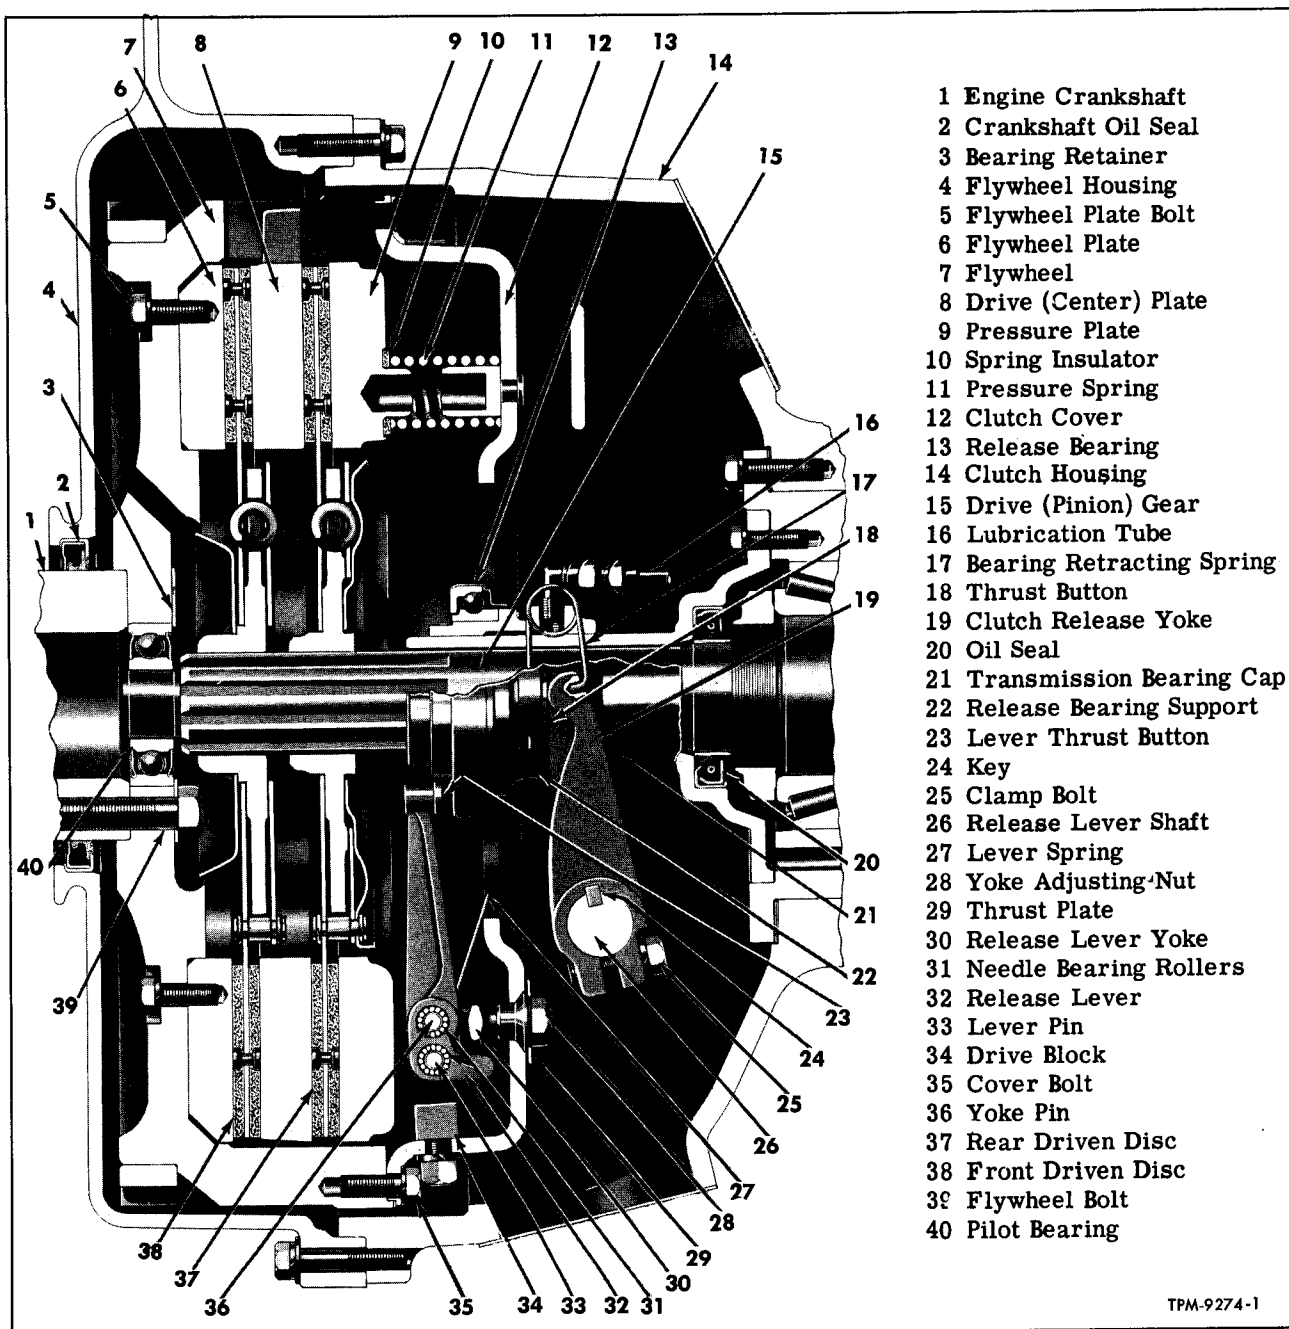
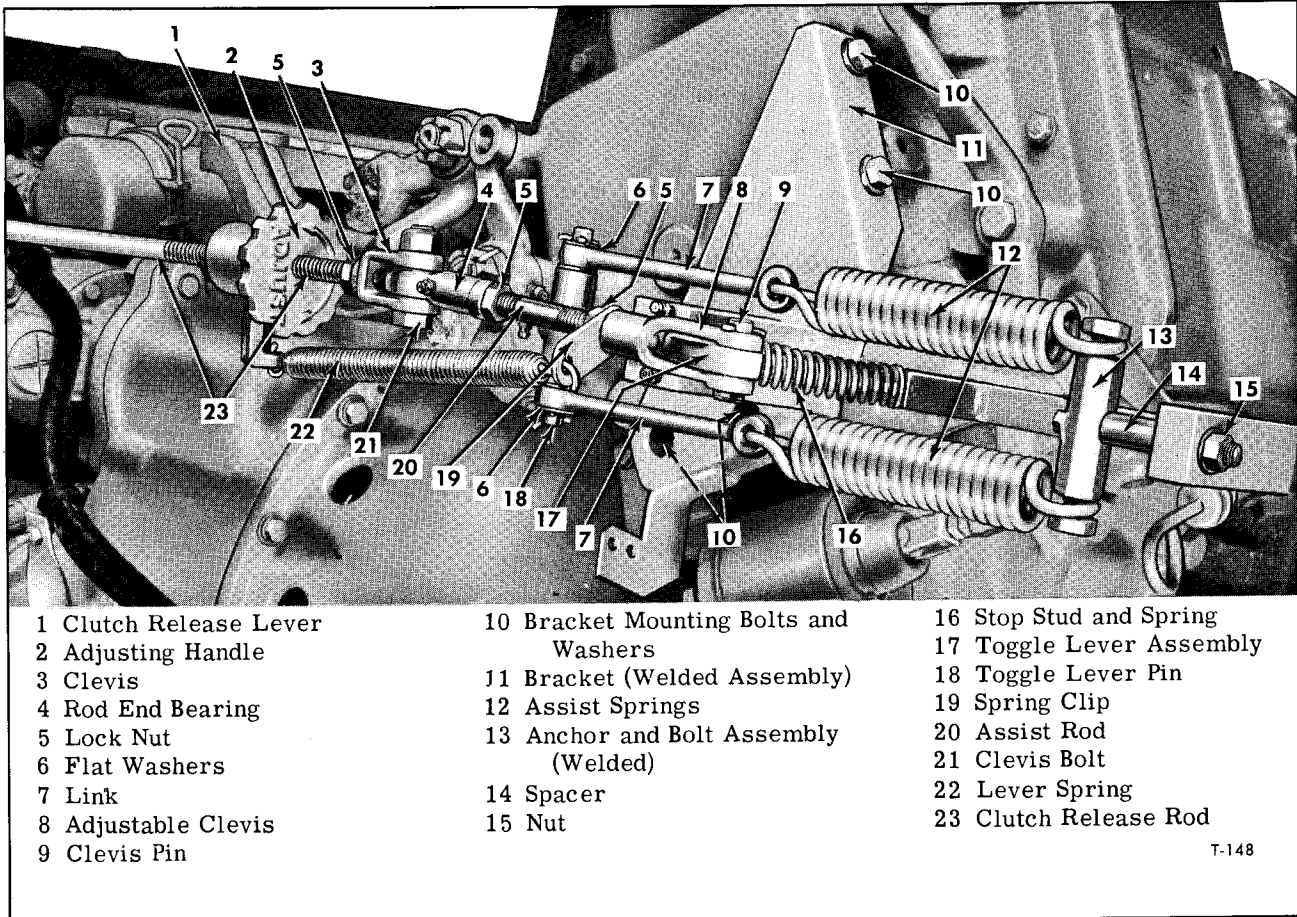
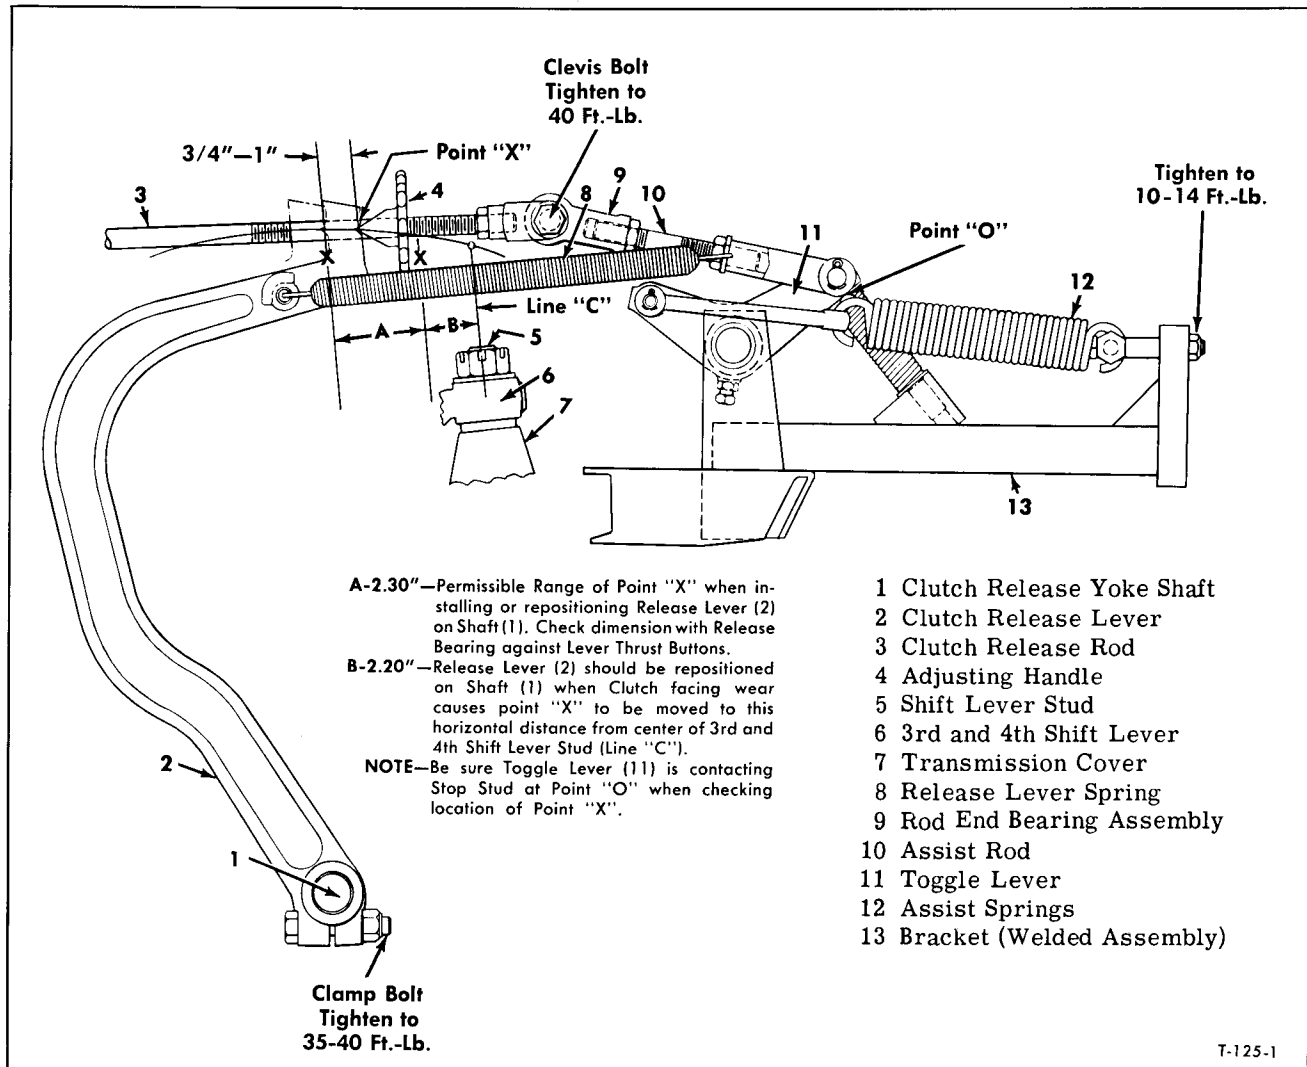
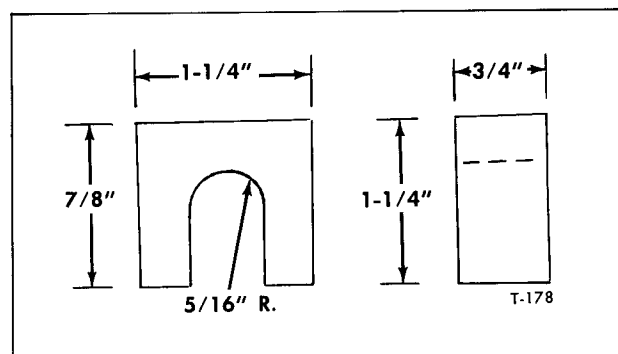

Figure 1—Cross Section of Clutch Installed
Figure 4—Clutch Release Assist Mechanism
Figure 6—Release Shaft Lever Position and Release Bearing Clearance Adjustment
Figure 7—Improved Tool (Gauge) For Measuring Release Lever Free Play
Figure 1 illustrates the clutch installation for current coaches. This differs from earlier production in that the clutch driven discs each have twelve damper springs at the clutch disc hubs, and the oil slingers differ somewhat in design. Slinger on front disc is welded to the disc hub.
Clutch cover and pressure plate assembly remains the same as in the past. A replaceable wear plate (6, fig. 1) is installed in flywheel.
Key numbers in text refer to figure 4.
The mechanism shown in figure 4 incorporates an over-center spring arrangement which serves to reduce the effort required to disengage the clutch.
NOTE: It may be necessary to remove clevis pin (9, fig. 4) to permit installation of clevis pin at bell crank.
3. After adjusting bell crank position as described in step 2 above, unhook lever spring and remove clevis pin (9, fig. 4). Check toggle lever (17, fig. 4) to make certain lever is in solid contact with stop stud. Hold clevis (8, fig. 4) at toggle lever and try inserting clevis pin. If pin is not a free fit through clevis and lever, loosen lock nut at spring clip and turn adjustable clevis as necessary to allow clevis pin to enter freely. Install clevis pin and cotter pin. Position the spring clip and tighten clevis lock nut, then install lever spring.
The adjusting handle (2, fig. 4) provides a simple means for adjusting release bearing clearance.
At regular intervals, check the free play of clutch release lever (1, fig. 4). "Free play" means
the distance the top of clutch release lever moves before the release bearing contacts clutch release lever buttons (23, fig. 1). Free play will normally become less as wear at clutch disc facings occurs. The checking tool illustrated in figure 7 can be made to the dimensions shown and used to determine if release lever free play is correct.
1. In engine compartment, unhook lever spring (22, fig. 4), then push release lever away from adjusting handle until it is stopped as release bearing contacts clutch release lever buttons. Try inserting the tool (fig. 7) between adjusting handle and release lever.
3. Remove tool and install lever spring (22, fig. 4). Be sure the wedged end of adjusting handle engages mating notches in release lever.
As clutch facings wear, point "X" (fig. 6) normally moves toward the assist unit with each succeeding release bearing clearance adjustment. This point, which is the point on release lever (2) contacted by adjusting handle (4), must be within the dimension shown for "A" in figure 6 when clutch is engaged. To determine if lever (2) should be repositioned, measure horizontal distance from center of 3rd and 4th shift lever stud (5) in transmission to point "X" when clutch is engaged and release bearing (13, fig. 1) is in contact with release lever buttons. If the distance is less than 2.20 inches, release lever must be repositioned on release yoke shaft (1, fig. 6) as follows:
Key numbers in text refer to figure 6 unless otherwise indicated.
1. Unhook release lever return spring (8), and remove clevis bolt (21, fig. 4).
2. Loosen clamp bolt securing release lever (2) to shaft (1), and mark lever (2) and end of shaft (1) to show original relationship.
3. Pry release lever (2) off shaft (1), move top of lever toward engine one serration from original position as marked in step 2, and reinstall lever on shaft.
4. Check position of point "X" which must be not more than 4-1/2 inches from line "C," with release bearing contacting clutch release lever thrust buttons. Tighten release lever clamp bolt to 35 to 45 foot-pounds torque. Install clevis bolt (21, fig. 4) and tighten nut to 40 foot-pounds with torque wrench.
once and normal wear has caused point "X" to reach maximum limit as shown for dimension "A" on figure 6, it must be determined whether there is sufficient clearance between the clutch release levers (32, fig. 1) and clutch cover (12) fig. 1) to warrant repositioning lever again. This can be checked through opening in clutch housing after removing screened cover from housing (14, fig. 1). If clearance is less than 3/16 inch, new clutch disc and facing assemblies must be installed, unless release levers are reset as directed below under "Resetting Release Levers." After installing new facings or resetting release levers, release lever will require repositioning to bring point "X" within the proper operating range.
4. Reposition release shaft lever to locate point "X" (fig. 6) within proper operating range.
Whenever it is necessary to disassemble the clutch release assist mechanism, follow the procedure given below referring to figure 4 for identification of parts.